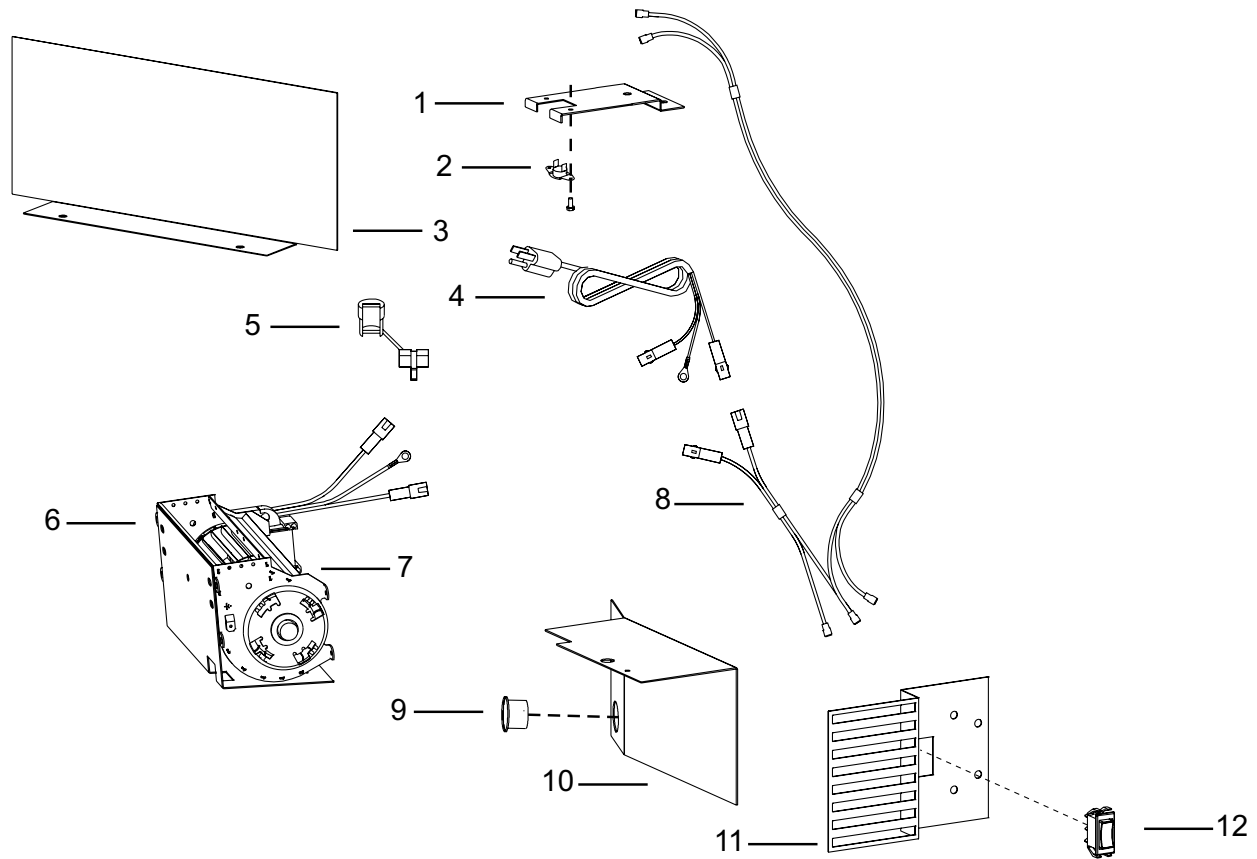

**Figure 34**
31. Place and align blower diverter on top of inner casing. Attach deflector to top of inner casing with two 10 x 1/2" screws. See Figure 34.